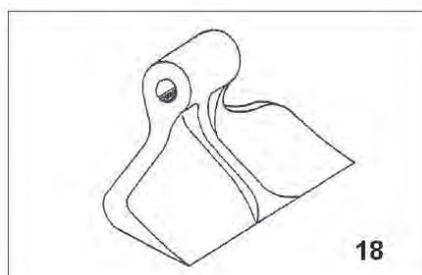

**Fig. 1**
The **Hypermaster XL** cutter is an all-purpose machine that can be used either at the rear of the tractor or at the side. Thanks to its pivot, the machine can also work on the sides of ditches and on banks. The power that drives the machine is transmitted by the tractor through a driveline (with CE marking) which meshes with the power take-off of the overdrive unit (**pos.2 Fig. 1**) following which it is transmitted to the tine rotor via the belts of the side transmission belt (**pos.3 Fig. 1**).
- universal knives (**pos.17 Fig. 1**) for cutting grass and the stubble of light crops such as: barley, oats, wheat, etc.
- hammers (**pos.13 Fig. 1**) for cutting more consistent vegetation, such as grass and branches up to 5-6 cm in diameter, etc.
Each machine is provided with an identification plate (20 Fig. 1) with the following data: